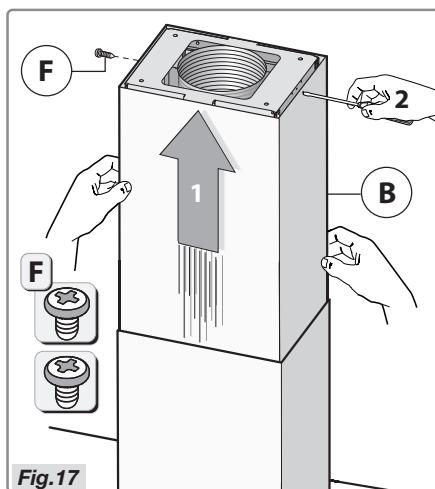

Fig. 17
- Connect the shaft **B** to the ceiling plate using the two screws **F** (Fig.17).